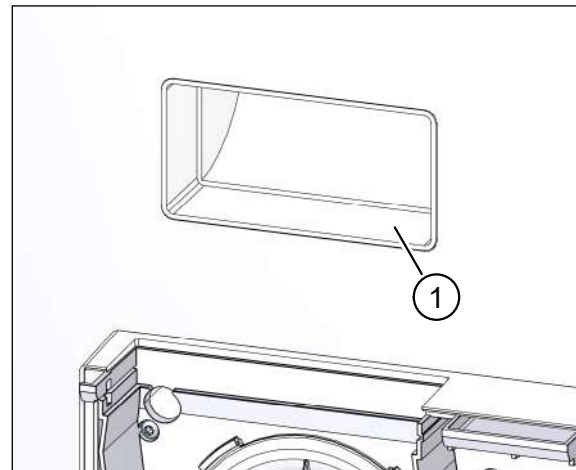

Fig. 41: Cleaning the ductwork connection
- ▶ Remove any soiling (e.g. remaining plaster) from the ductwork connections in the wall (item 1 in Fig. 41).